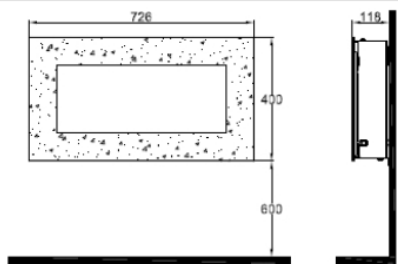

Fig.1
- There are four feet mounting holes at bottom of the heater as indicated Fig1.
1. Although a minimum distance of 300mm from the floor is to be adhered to,for optimum viewing of the fuel bed,600mm height is recommended, (Fig.1).